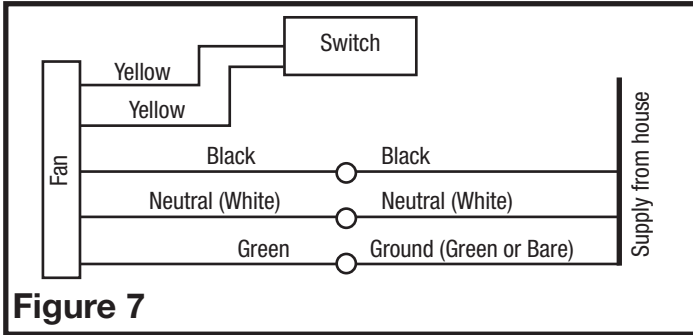

Figure 7
2. **Continuous Ventilation:** For two speed fans wired for continuous ventilation, connect the White wire of the fan to the White (Neutral) wire from the power source. Connect the ground wire from the house to the green wire from the fan housing. Run 2 wires from a properly grounded wall switch (not included) to the fan. Connect the Black wire of the fan to the Black wire (Hot) from the power source. Connect the Hot Yellow wire from the fan to the input of the switch. Connect the second Yellow wire from the fan to the output side of the switch. Closing the switch will change from normal to high speed. (Figure 7). Use approved methods for all connections.